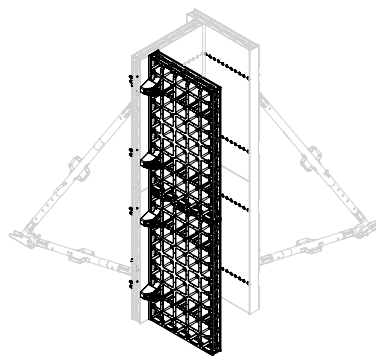

Fig. C1.08
8. In the same way, pre-assemble the third and fourth panel units with DUO 135 chamfer strips (**29**) and connect with the DUO corner connector (**23**). (Fig. C1.08 + C1.09)